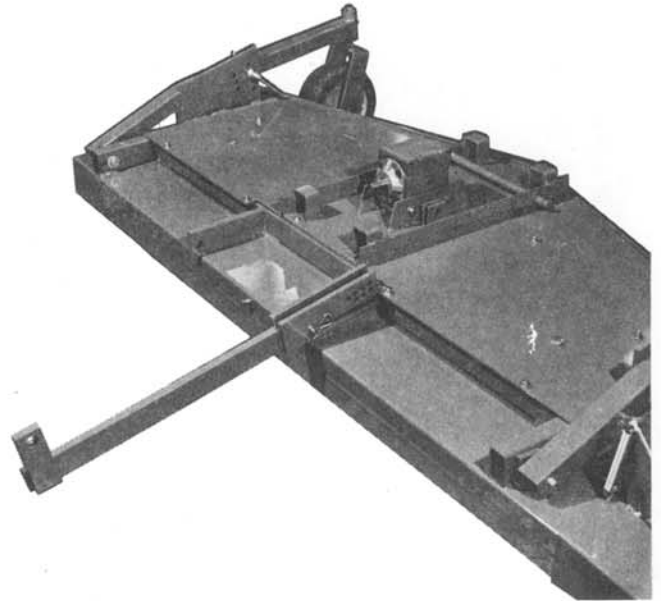

fig 9
11. Install hinge support weldment (item 8 or 9) and fasten with clevis pin (item 60) and hair pin cotter (item 24). There is a right and left weldment. The hanging strap at the back of the weldment goes to the outside. Install only one weldment before installing mower on tractor. See fig 9.